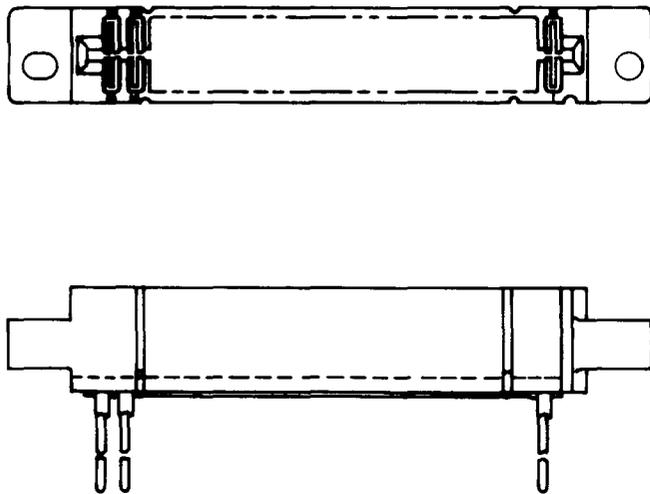

Fig. 1—960A or B Connector
2.01 **960A and B:** The 960A and B connectors (Fig. 1) consist of a molded block of insulating material containing 30 spring terminals equipped with twin contacts. The mounting holes are offset with respect to the center of the card slot to allow interchangeability of mounting with the 935A connector. The 960A and B connectors are used on the A6 channel bank.